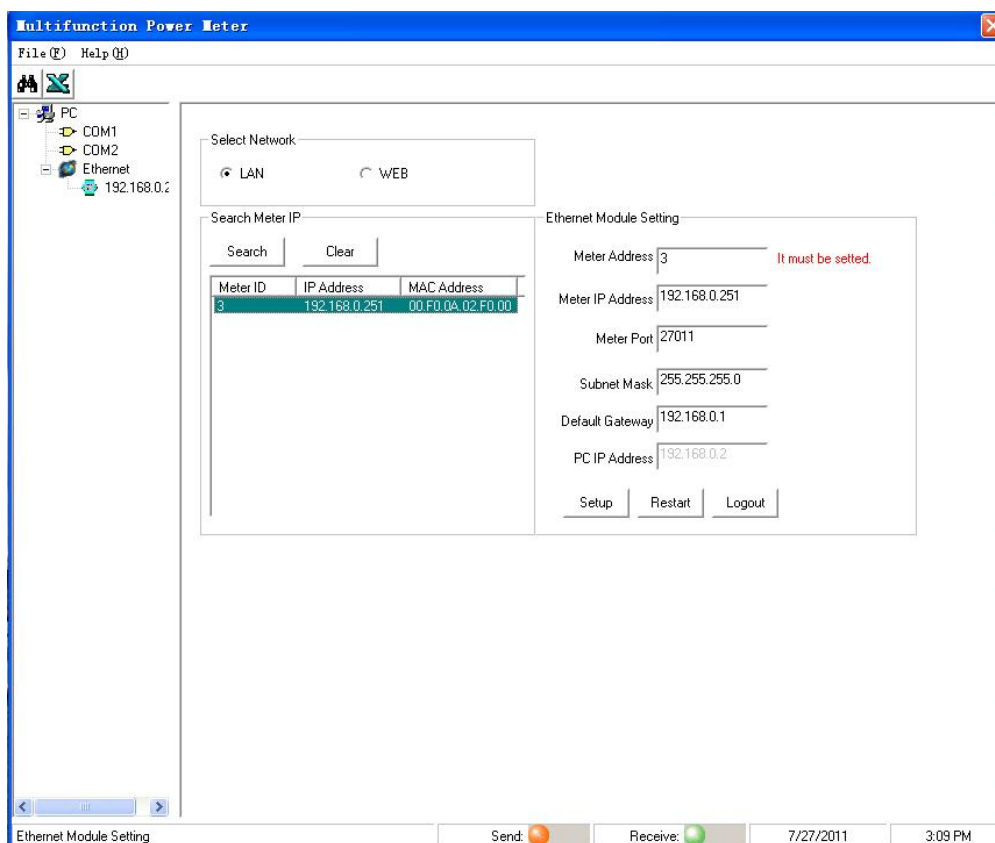

Fig. 192
(3) As shown in Fig. 192, click "File" then click "search meter address".